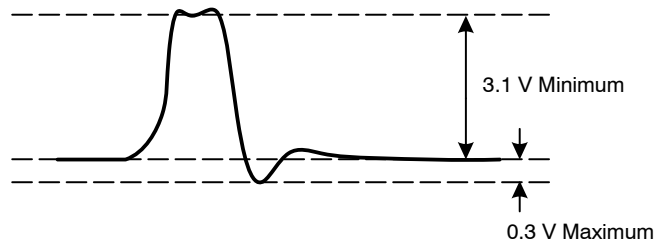

Figure 11. RG Clock Overshoot
- Reset Clock Operation: The RG1, RG2, and RG3 signals must be capacitive coupled into the image sensor with a 0.01 μF to 0.1 μF capacitor. The reset clock overshoot can be no greater than 0.3 V, as shown in Figure 11, below: